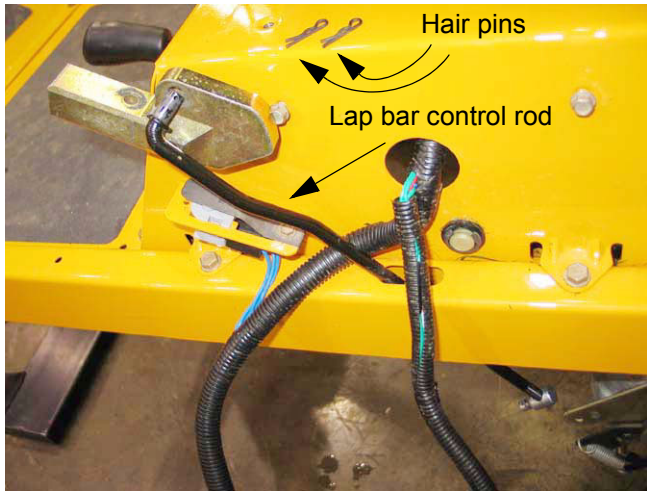

Figure 13.6
- 13.6. While rotating the control hub forward the lapbar control rod can be disconnected and removed. See Figure 13.6.